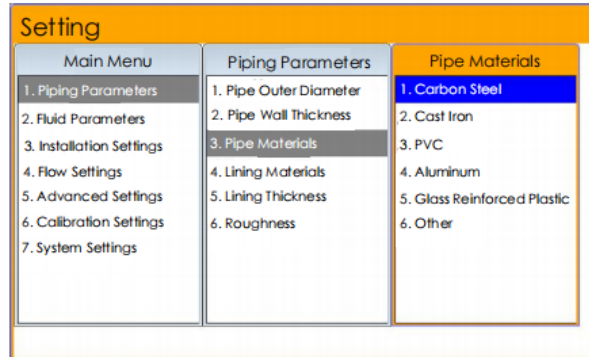
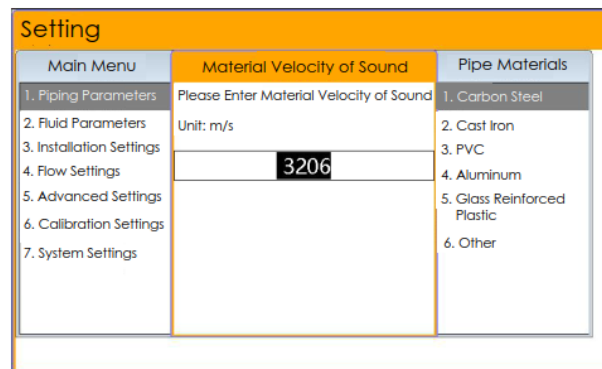

Figure 7 Pipe Material Selection
Figure 8 Other Material Speed of Sound Edit Box
3) Press  to select "pipe material", the default is carbon steel, press  to enter the pipe material selection box, and then select the corresponding pipe material, press  to save and return to the upper menu (Figure 7). If there is no current pipe material in the pipe material selection column, then select other, press  to enter the pipe material speed input window (Figure 8), enter the speed of sound of the current pipe material, press Enter to save and return to the menu bar.